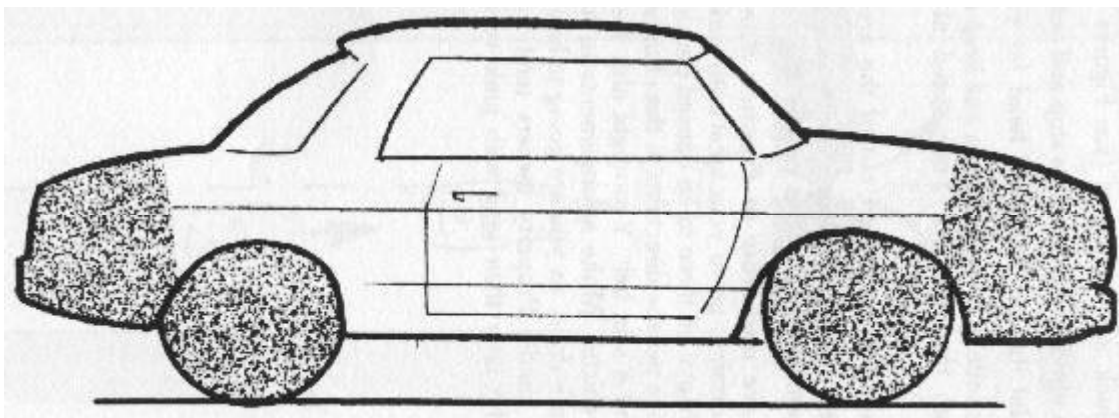

Figure 10: Preferred Ramming Points (shaded areas)
- (1) Slow down almost to a complete stop and put the car in low gear. This will give the attackers the impression that you are going to stop.
- (2) Suddenly hit the gas hard and pick a ramming point.
- (3) Hit the target at an angle and keep the accelerator fully depressed through the collision. Your speed at impact should be between 15 and 30 mph.
- (4) After breaking through, get out of the area fast. Even if your car is badly damaged, keep going.
The ramming points on the blockade vehicle listed in order of preference are: (1) the rear wheel and rear fender area; and (2) the front wheel and front fender area (see Figure 10). If either end of the blocking vehicle is up against a curb or wall, you will have to ram through the other end.